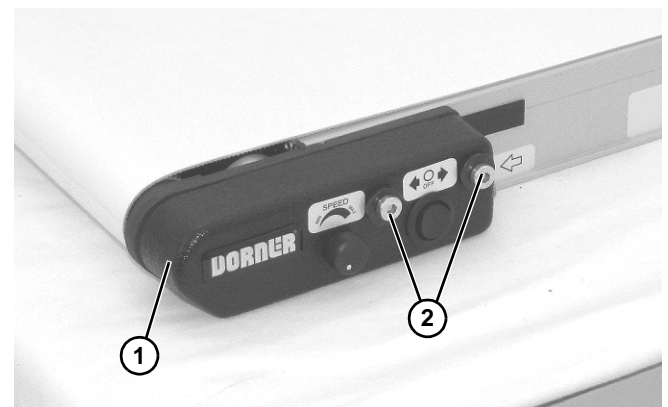

Figure 48
2. Remove inframe drive side cover (**Figure 48, item 1**) by removing two iDrive cover screws (**Figure 48, item 2**).
3. Unplug motor connector (Figure 48, item 1) from cover wiring connector (Figure 48, item 2).